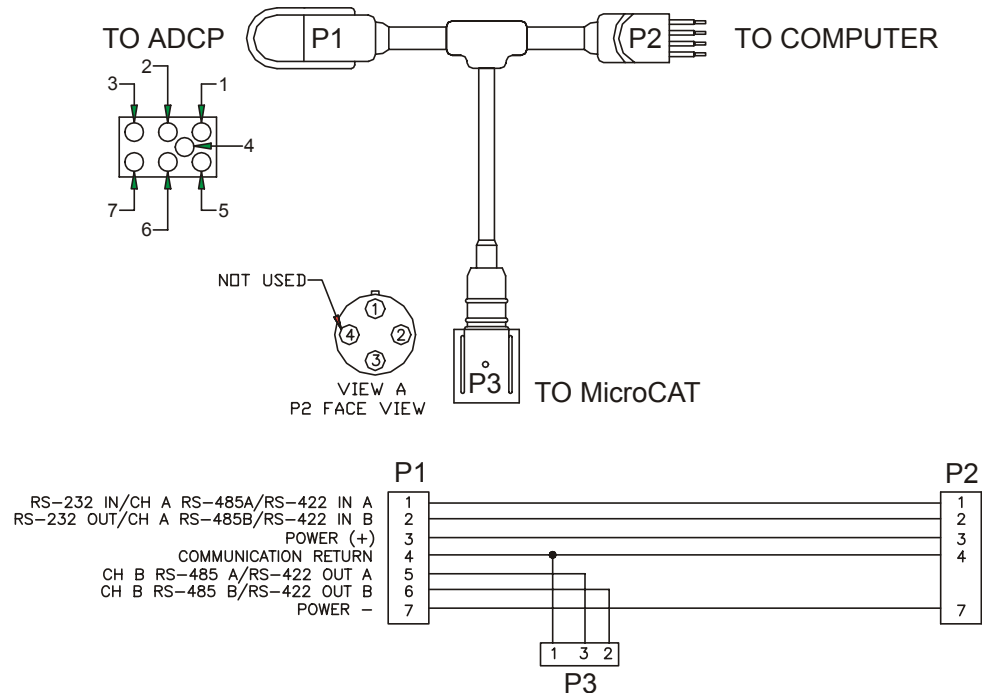
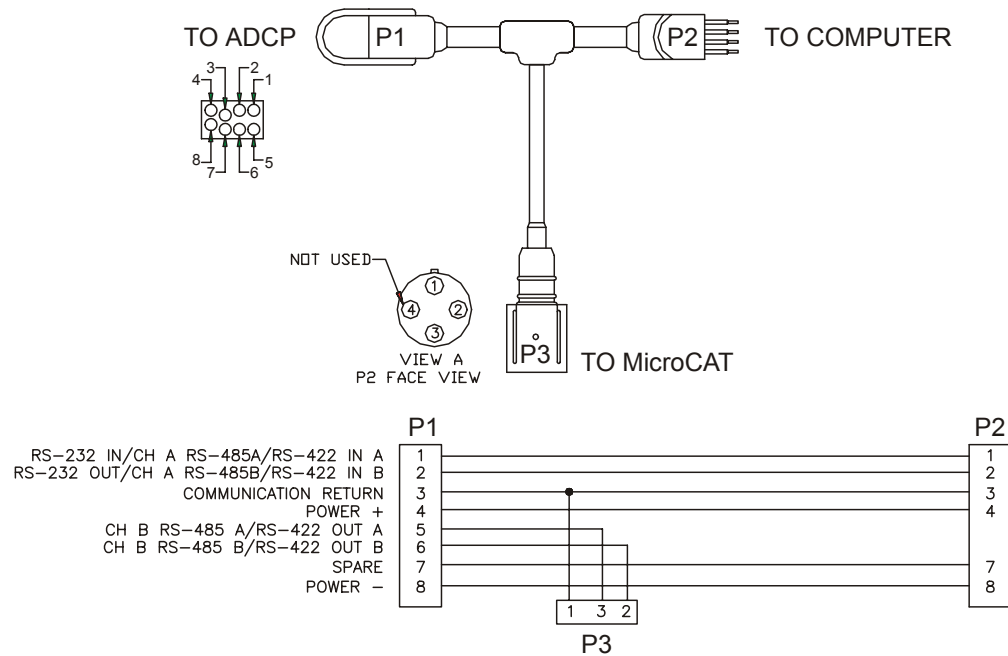

Figure 4. MicroCAT Real-Time Interface Cable Wiring for WorkHorse Monitor/Sentinel/Navigator/Long Ranger
Figure 5. MicroCAT Real-Time Interface Cable Wiring for WorkHorse Rio Grande
- Connect the ADCP to the computer using the MicroCAT Real-Time interface cable (see Figure 4, page 9 or Figure 5, page 9).
- Connect the MicroCAT to the MicroCAT Real-Time Interface cable (see Figure 4, page 9 or Figure 5, page 9).